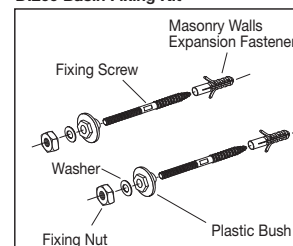

Fig. 2
- 3- Insert Expansion Fasteners into the drilled holes in masonry wall. The Fixing Screws should be screwed into the wall using the flat section of the Fixing Screw with a spanner as shown in **Fig. 2**. Allow 50 mm of thread to protrude from the finished wall.